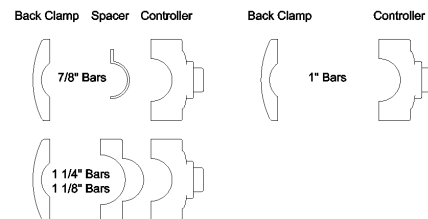

Figure 3: Controller mounting options with back clamp
2. For bikes with 7/8" or 1" bars, use the small spacer shown in **Figure 3** with the shorter bolt set. For bikes with 1 1/4" or 1 1/8" bars, use the large spacer shown in **Figure 3** with the longer bolt set.